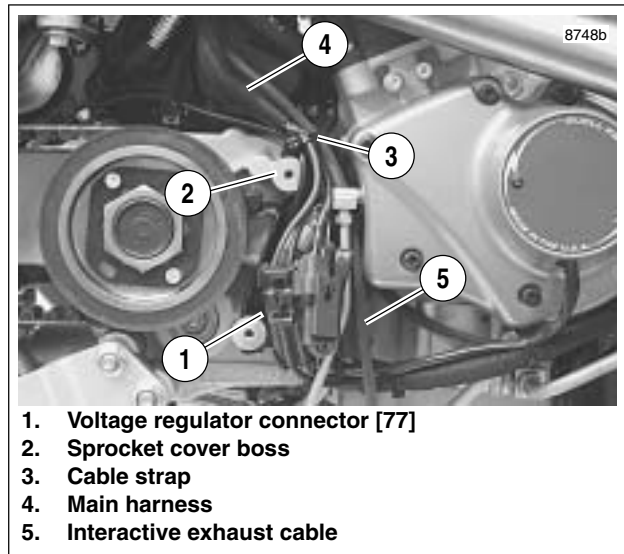

Figure 7-98. Assembled Wiring (Typical)
See Figure 7-98. In next step, be sure main harness (4) is routed around sprocket cover boss (2).
- See Figure 7-98. Connect voltage regulator connector [77] (1). Be sure connector latch faces inward and voltage regulator wires are positioned behind other wires in harness at sprocket cover boss (2).
- Install cable strap (3) securing vehicle speed sensor wiring to starter connector [128] wiring.
- Install cable strap (5) securing main harness wiring.
- Install cable strap (6) securing stator, cam position sensor and oil pressure switch wiring.
- Add cable strap (7) to secure cam position sensor and voltage regulator wiring.